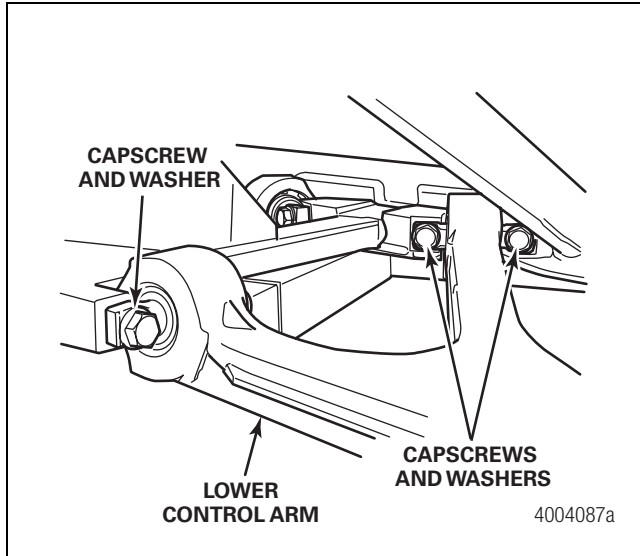

Figure 5.9
3. Remove the four capscrews and washers that secure the lower control arm to the suspension subframe. Remove the lower control arm. Figure 5.9.